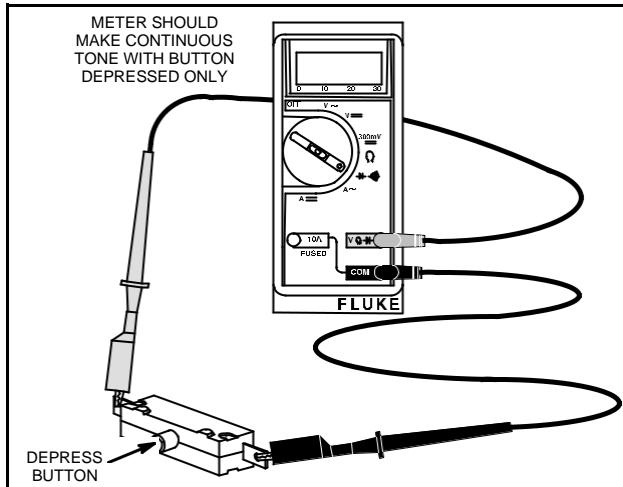

Fig. 708 – TESTING SWITCH ASSEMBLY
2. Attach meter test leads to switch terminals, Fig. 708.